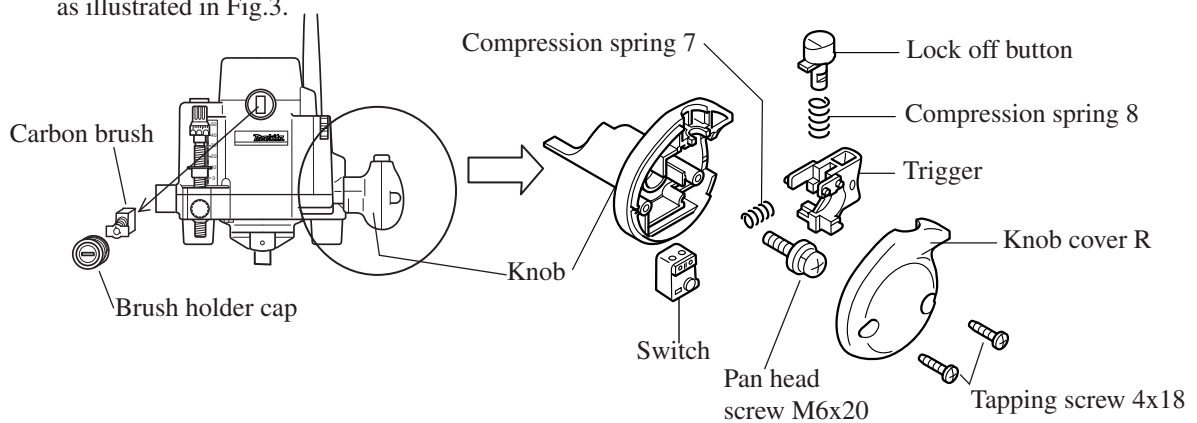

Fig.3
- (6) Take off lock off button, trigger and switch from the knob R.
- (7) Remove knob R from motor section by taking off pan head screw M6x20 as illustrated in Fig.3.